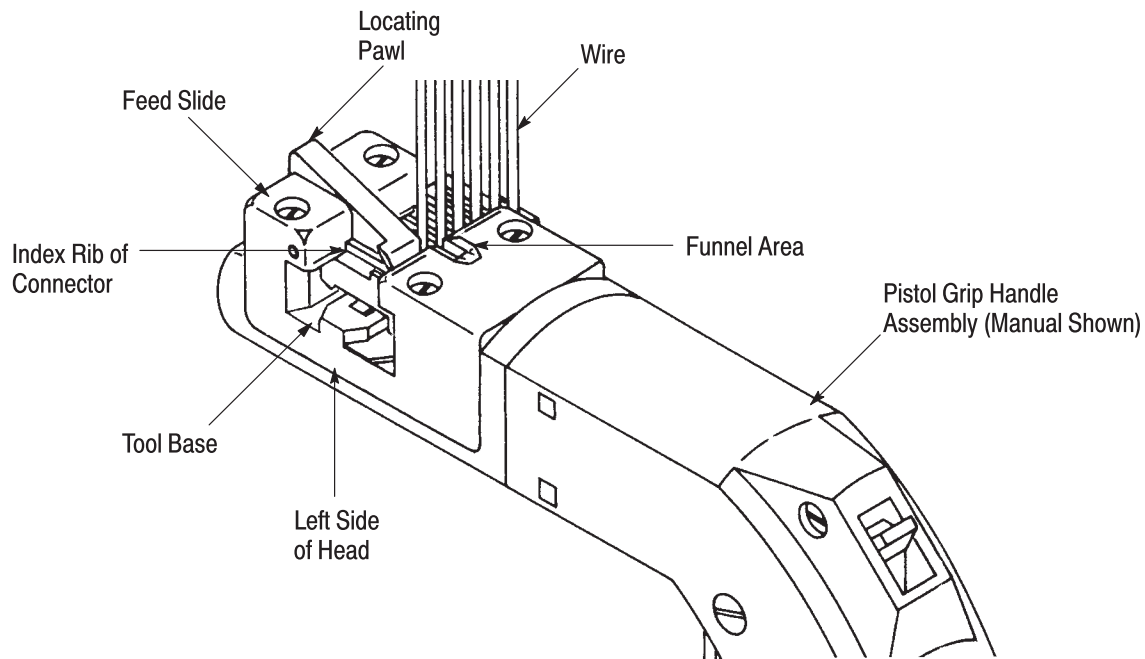

Figure 6
2. Insert the connector into the left side of the head. Refer to Figure 6.
4. Insert the unstripped wire into the funnel area between the contact and the wire inserter until it bottoms on the tool base. See Figure 6.